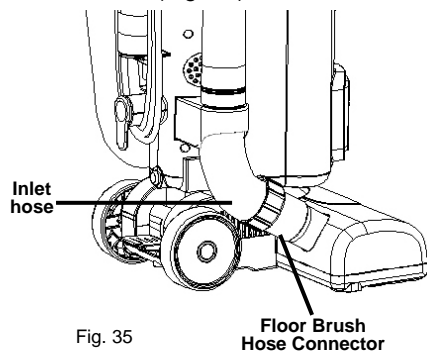

Fig. 35
2. Hold the hose inlet and pull it out from the floor brush hose connector. (Fig. 35)